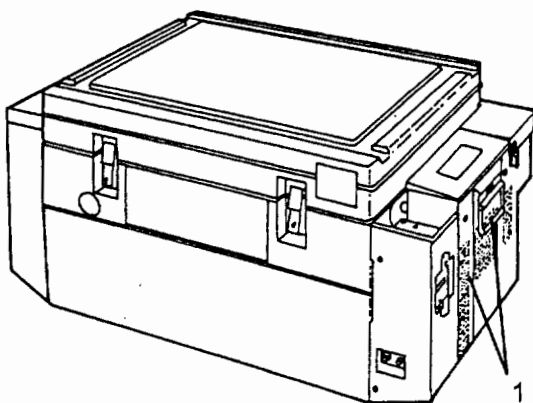

Figure 4-6 — Covers and Grills
409. Remove any accumulated dirt from the grills and covers (1) around the refrigerator unit (Fig 4-6).